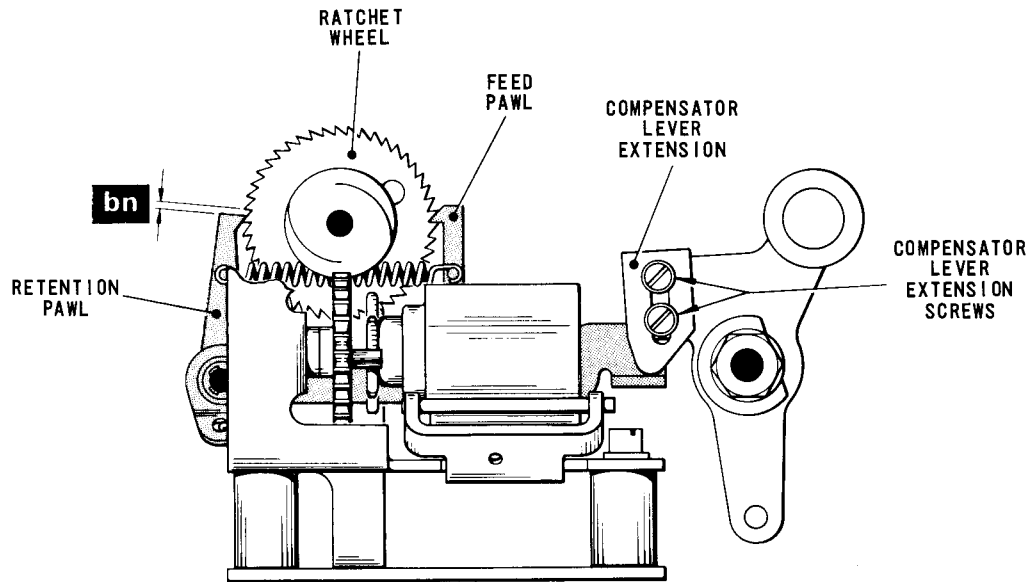

Fig. 4.75 OPERATION COUNTER
- 91.1 With the machine in the rest position, check that the feed pawl, Fig.4.75, is fully engaged with a tooth of the ratchet wheel, and that there is a clearance of approximately .010 in. (dimension 'bn') between the top face of the retention pawl and the face of the next tooth in the ratchet wheel.